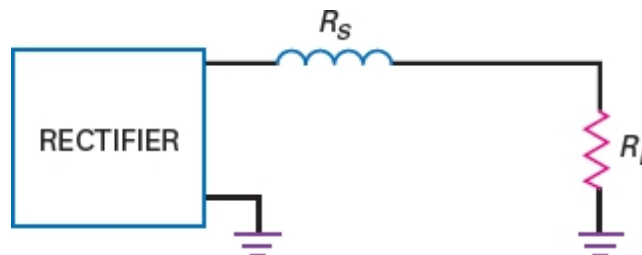

Figure-54 DC-equivalent circuit
- Each of these voltages acts like a separate source. As far as the ac voltage is concerned, X_L is much greater than X_C , and this results in very little ac voltage across the load resistor. Even though the ac component is not a pure sine wave, Eq. (15) is still a close approximation for the ac load voltage.
- The circuit acts like Figure-54 as far as dc voltage is concerned. At **0 Hz**, the inductive reactance is zero and the capacitive reactance is infinite. Only the series resistance of the inductor windings remains.